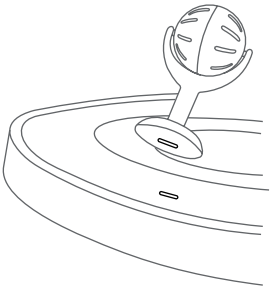

Fig. 6a
- 6 • Single lock toys can be used with any of the 3 single tab housings the activity center. Set the toy base in alignment with the tabletop fitting. From underneath the tabletop push the lock up and turn it left to lock (Fig. 6a).